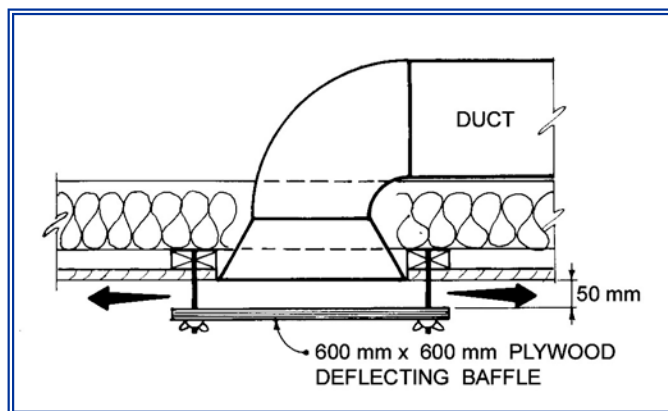

Figure 3 Detail of Milkroom Air Inlet
- ◆ Install a centre-mounted ceiling inlet as in Figure 3.